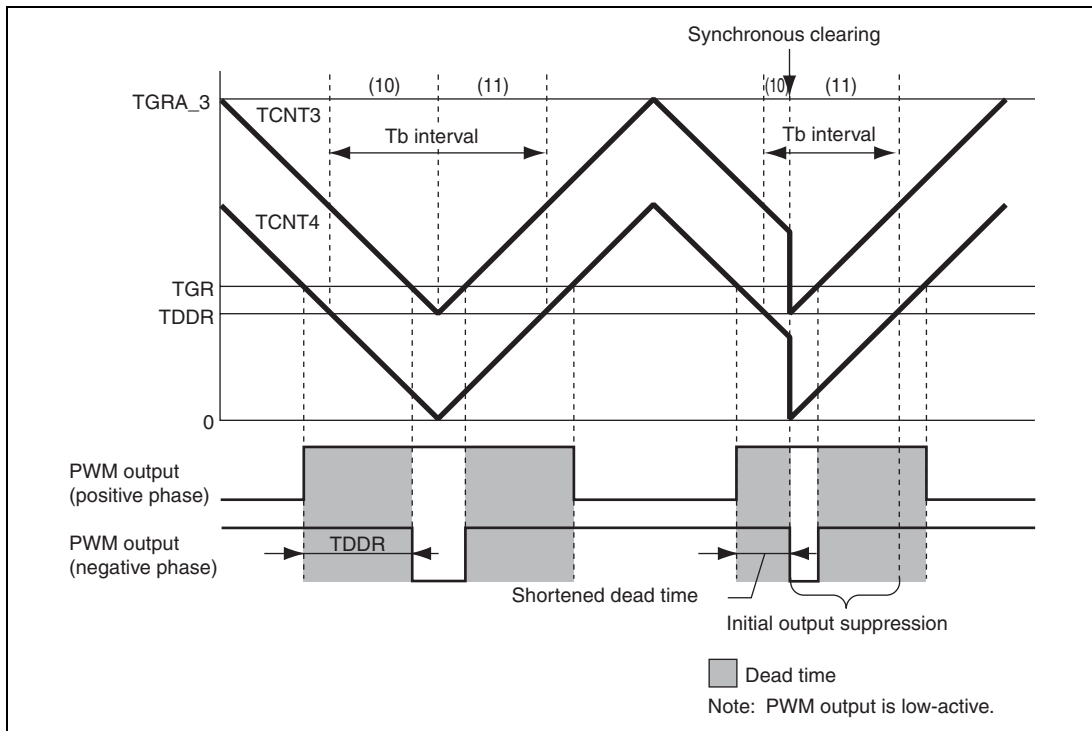

Figure 10.135 Condition (1) Synchronous Clearing Example
Condition (1): When synchronous clearing occurs in the PWM output dead time interval within initial output suppression interval (10) (figure 10.135).